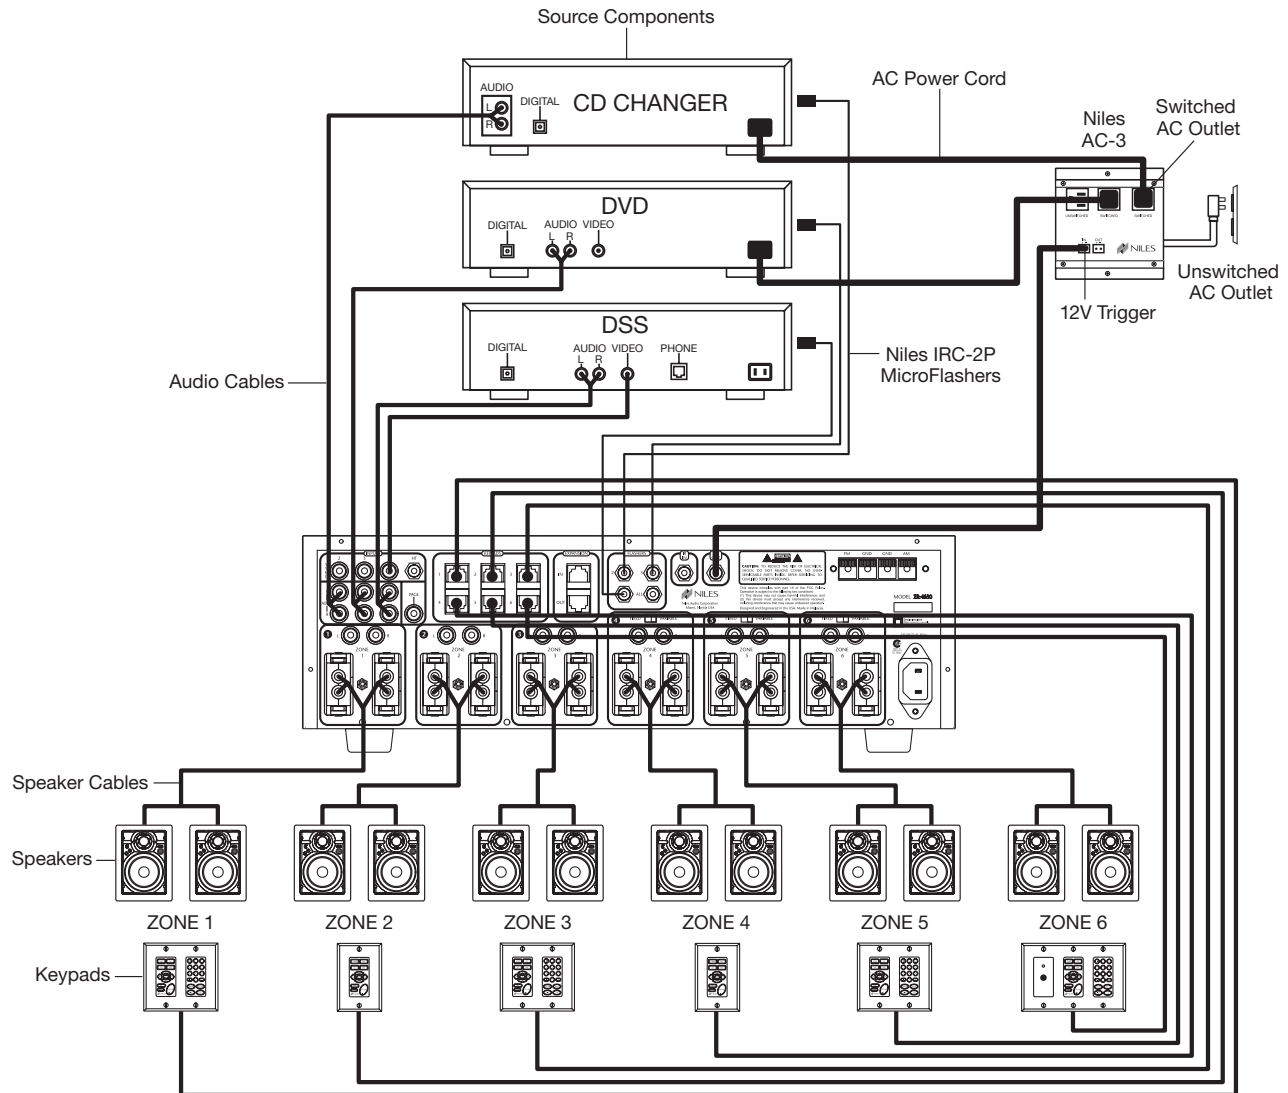

Figure 4
This is the simplest of the ZR-4630 configurations (see Figure 4). It depicts one Niles ZR-4630 MultiZone Receiver installed to provide sound to six listening zones.
1. **Synchronized IR** - In Figure 4, the DSS receiver's power ON/OFF is synchronized via a video signal connected to the ZR-4630. When the Master Key/Source Button for the DSS is pressed, the ZR-4630 checks for a video signal at the Sync Input corresponding to the DSS. **The ZR-4630 issues the power command to turn the DSS ON only when there is no video signal present and the DSS is OFF.**
2. **Latching Power** - In Figure 4, AC power to the DVD and CD changer is turned on and off via the switched AC outlets of a Niles AC-3. The AC-3 is activated by the 12V Control Output from the ZR-4630 when any one of the six zones is ON (including the Home Theater Zone sharing sources). The built-in AM/FM tuner is also turned ON when one of the six zones is ON.